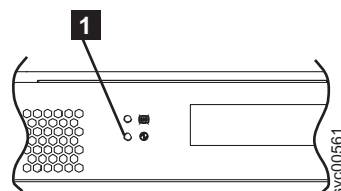

Figure 92. SAN Volume Controller service controller error light
**Is the service controller error light that you see in Figure 92 illuminated and showing a solid amber?**